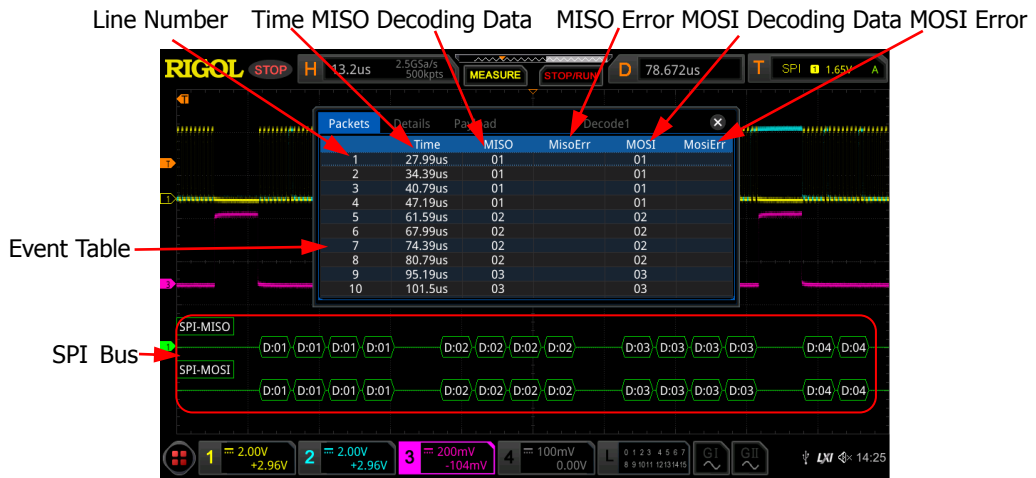

Figure 12-8 SPI Decoding Event Table
- Open or close the event table: Press **Event Table** continuously to enable or disable the event table. When you enable the event table, the following figure is displayed, as shown in Figure 12-8. You can also enable the touch screen to tap the icon  at the upper-right corner of the table to close the event table.